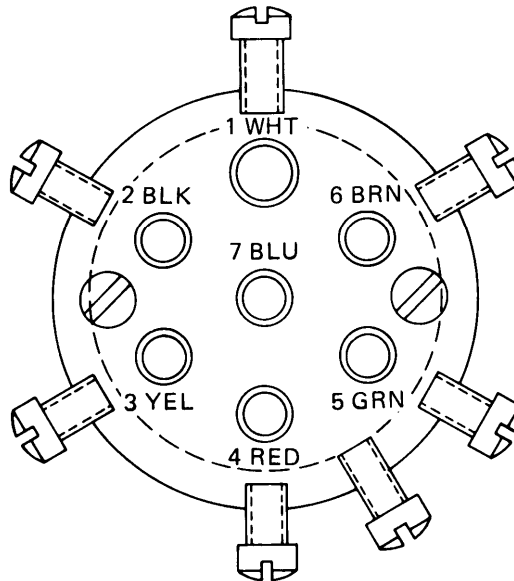

Figure 4-2. 12 Volt Receptacle Wire Placement
(2) Insert wires in receptacle (5). Be certain wires go in proper place (fig. 4-2).